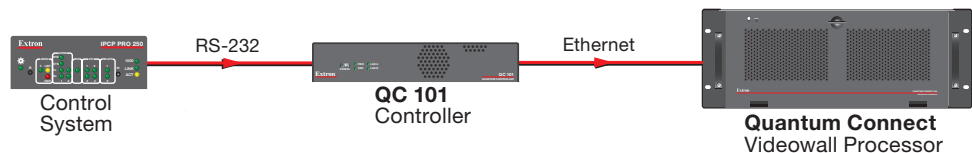

Figure 60. QC 101 Direct Connection
- Directly from a QC 101 LAN port to the Quantum Control connector on the rear panel (see figure 60).